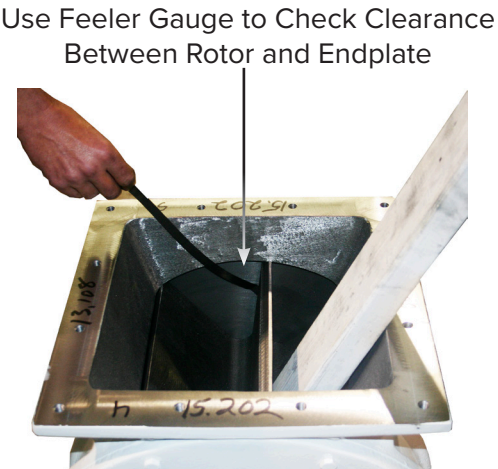

Figure 8
8. Using a feeler gauge, check the clearance between the rotor and the airlock end plates (see Figure 8). There should be a minimum of .003" to .004" standard clearance.